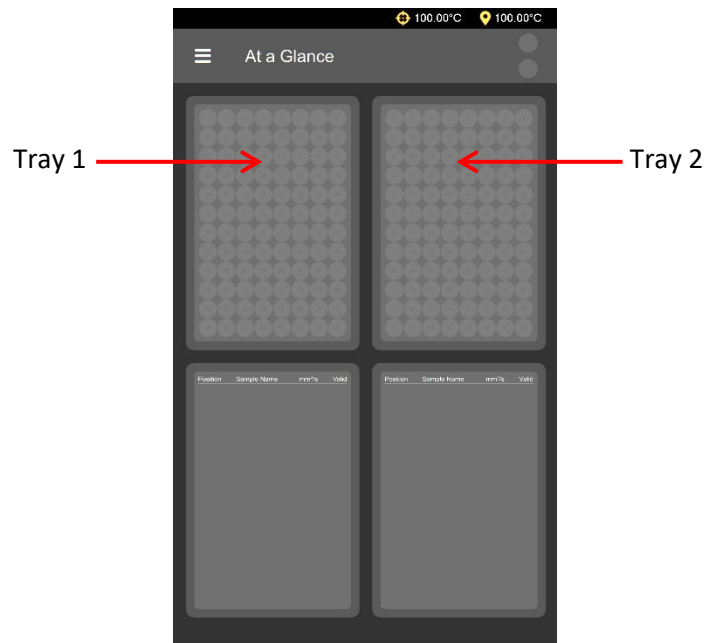

Figure 34: Choose Tray
2. From the **At a Glance** screen, use a single touch to select the desired Tray. See Figure 34.